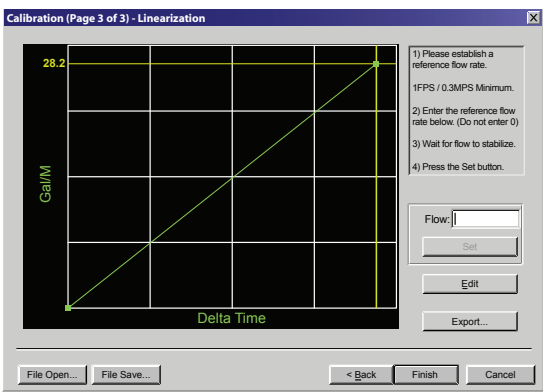

Figure 61: Calibration points editor
3. On the pop-up screen, click **Next** twice to get to Page 3 of 3. See Figure 61.
9. The display will return to Page 3 of 3. Click **Finish**. See Figure 61.